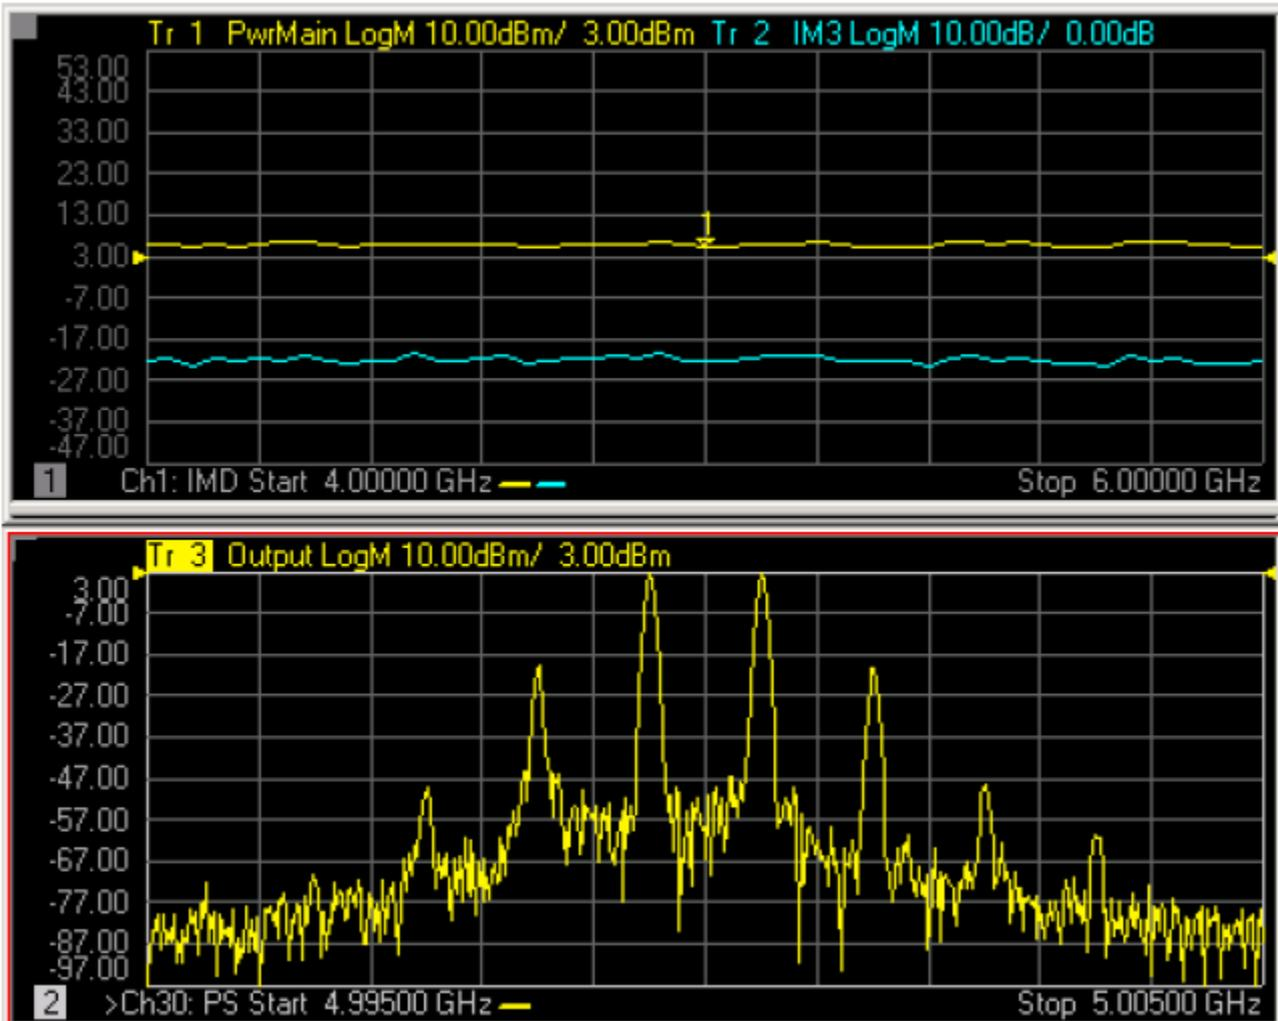

Fig. 7.15 Intermodulation Spectrum Track (lower figure) Frequency Scanning Intermodulation Distortion Track (upper figure)
- The upper figure of Fig. 7.15 shows the intermodulation distortion measurement window, in which the scanning range is 4GHz-6GHz, the sound span is fixed, and the center frequency of the double-tone sound is 5GHz.
- The lower figure of Fig. 7.15 shows the intermodulation measurement window, in which the center frequency is the same as that in the upper figure, i.e. 5GHz. But the frequency span is smaller ( $\pm 500$ KHz). The receiver settings of the intermodulation spectrum channel are mainly used to measure the main sound signals and three-order, five-order and seven-order intermodulation products.